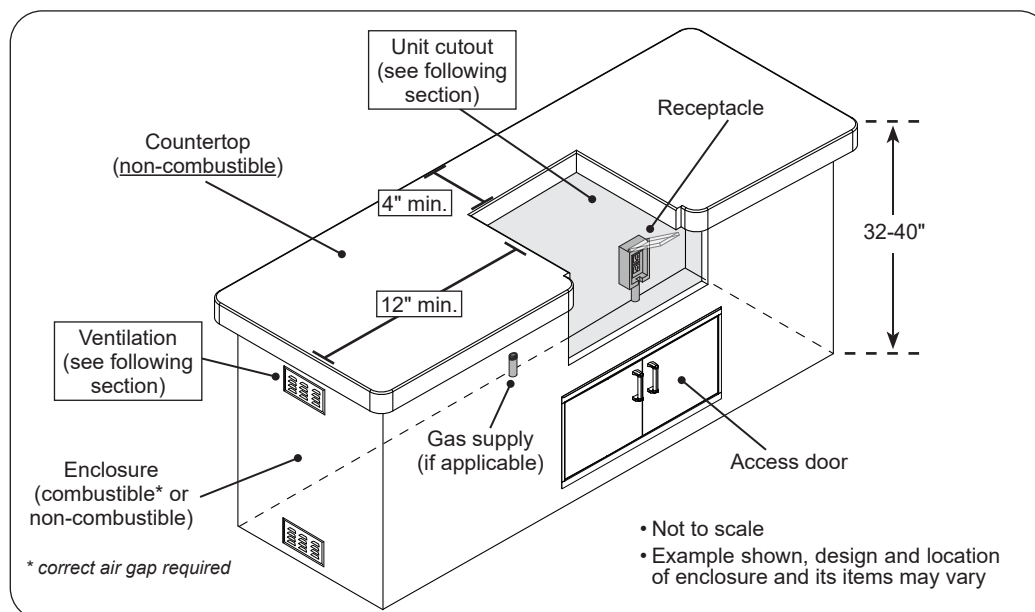

Fig. 11-1 Enclosure specifications
The enclosure can be constructed according to your individual preference, while following all guidelines found in this manual. **The enclosure MUST (see Fig. 11-1):**
- have the minimum dimensions specified in Fig. 11-1
- meet all requirements found in Fig. 11-1 and the following sections